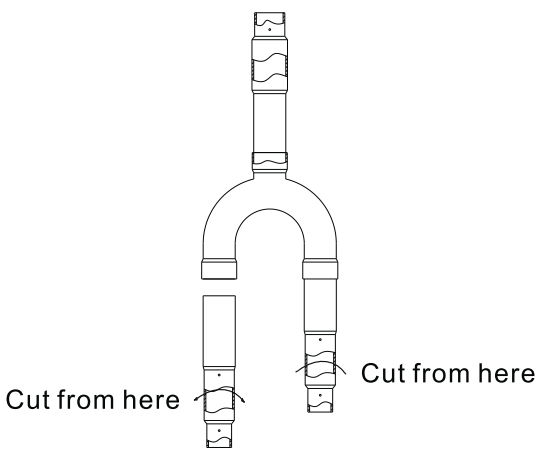

Figure 2
a. After the selection of RVF-RDIX17 type, the obtained actual object as shown in Figure 1, supposing the tubing we presently use is $\phi 15.88$, the welded pipe of the manifold assembly shall be cut according to the Figure 2.
b. Then the independent tube shall be cut according to the Figure 2..